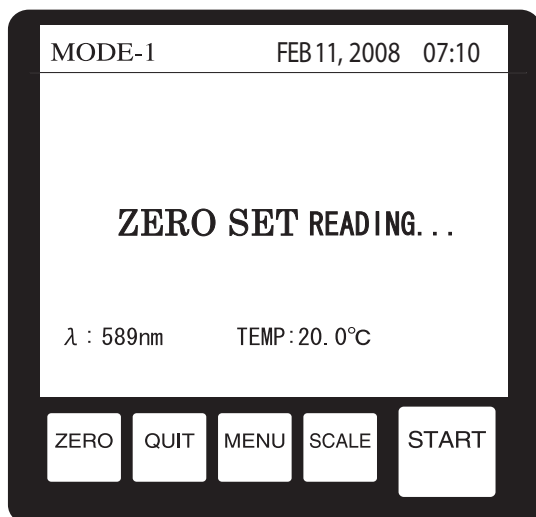
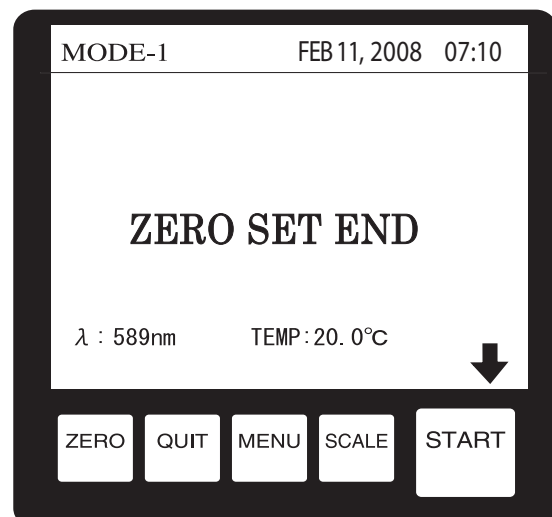

Fig.15-2
Fig.15-3
d) The AP-300 begins zero setting (Fig.15-2). When the process is complete, the ZERO SET END screen will be displayed on the display panel (Fig.15-3).